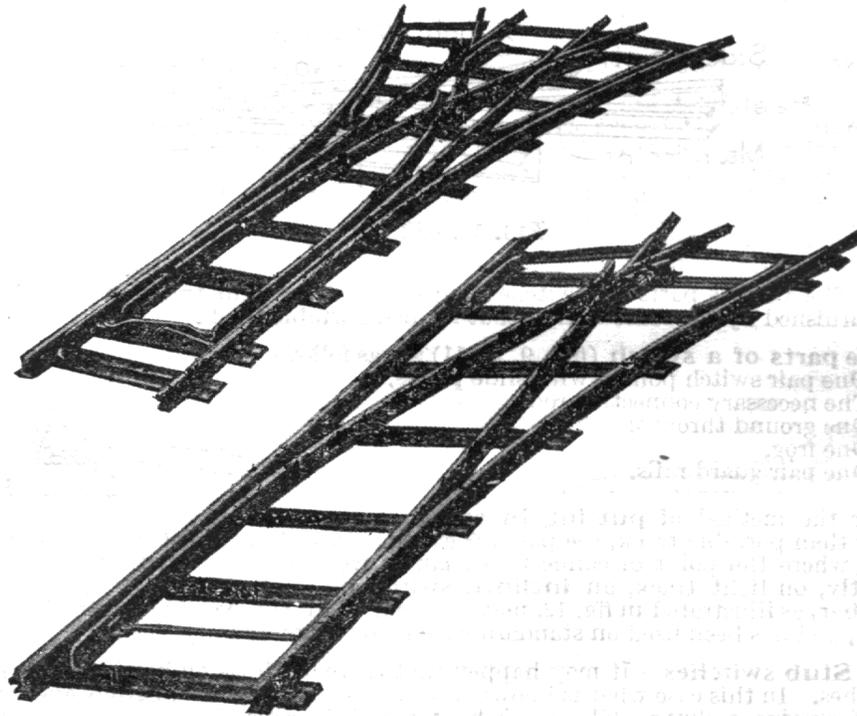

FIG. 8.—THREE-WAY AND RIGHT-HAND SINGLE SWITCHES.
14. **Switches.**—For a portable railway, switch sections are made that include the main track and turnout from the point of switch to beyond the frog. These switches are usually split switches, as illustrated in fig. 8, and can be purchased